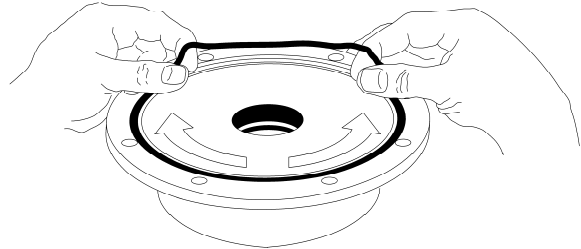

Figure 10 – Head O-ring Installation
7. Install a new head O-ring (72) in the groove on the inside face of the head (20). Lay the O-ring flat and start in on one side of the groove, stretching ahead with the fingers, as shown in Figure 10.